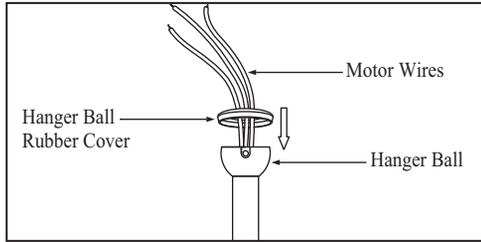

Figure 10
7. Route the wires through the hanger ball rubber cover and then attach the rubber cover onto the hanger ball. (Figure 10)